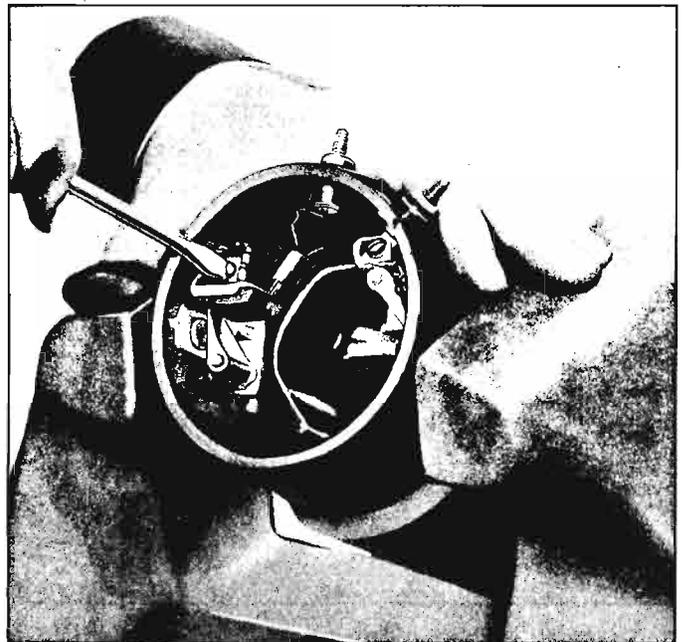

Fig. 8-16—Removing Brush Leads
4. Remove the brush lead wire screws (fig. 8-16).
7. Remove the brush lead wire screws (fig. 8-16) and remove brushes.